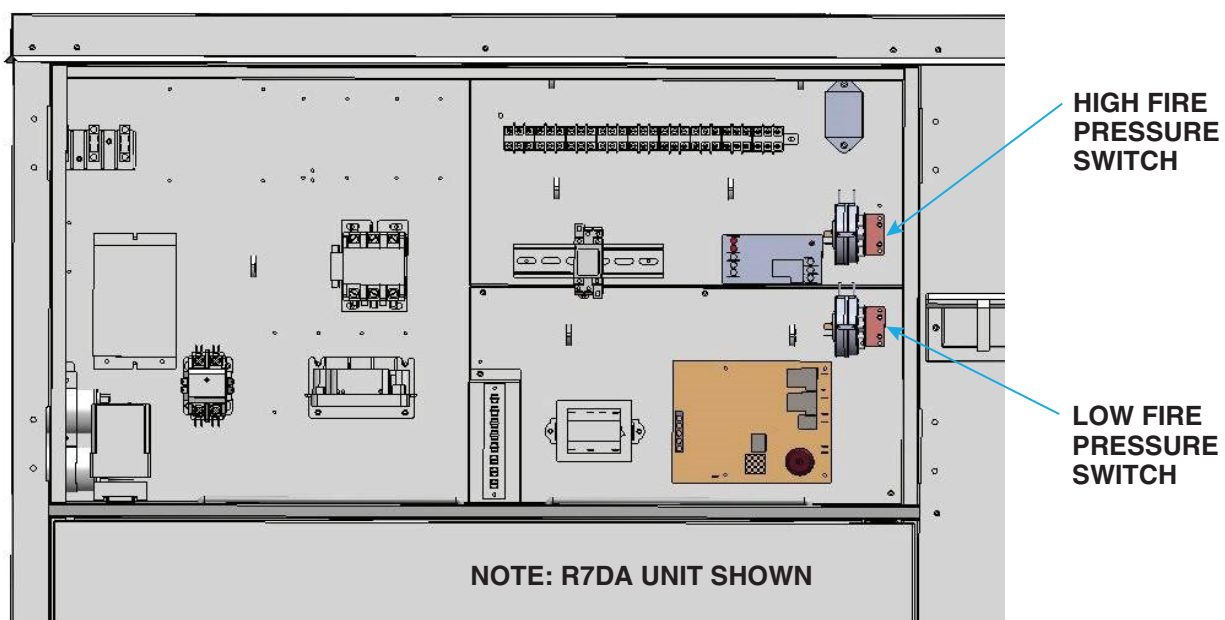

Figure 4. Venter Pressure Switch Location
- a. Open upper control cabinet doors and locate venter pressure switch (see Figure 4).